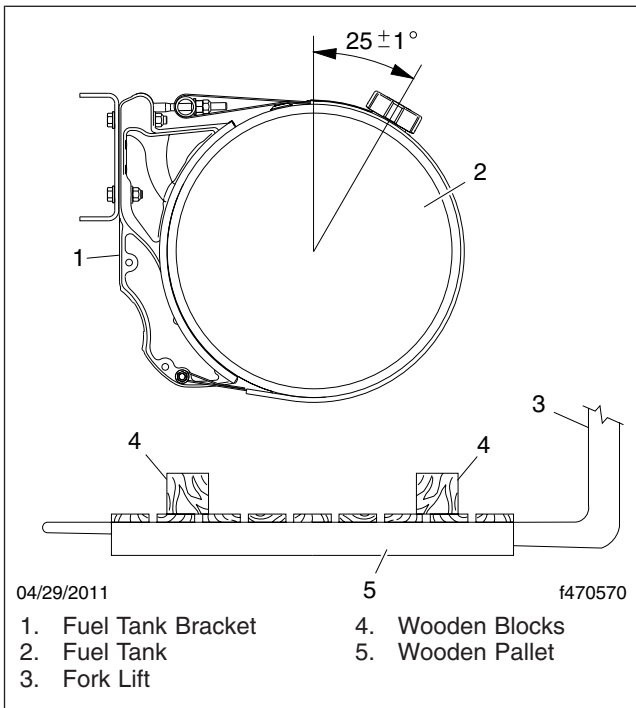

Fig. 3, Fuel Tank Orientation and Support (diesel tank shown)
7. To prevent the fuel tank from rolling during and after removal, nail 2-by-4 or 4-by-4 wooden blocks to the top of a pallet about 18 inches (46 mm) apart, then place the pallet on the forks of a fork lift. See **Fig. 3**.
1. Using the fork lift and pallet, put the fuel tank in its approximate installed position. See Fig. 3.